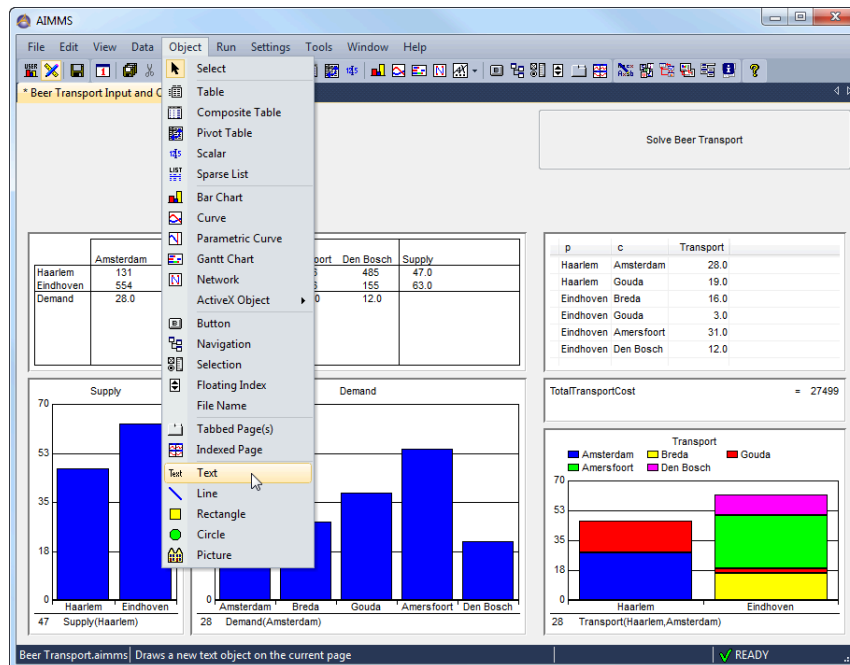

Figure 6.8: The **Object** menu of a page in *Edit* mode
- ▶ select the **Text** command from the **Object** menu (see Figure 6.8), and draw a rectangle using the mouse,